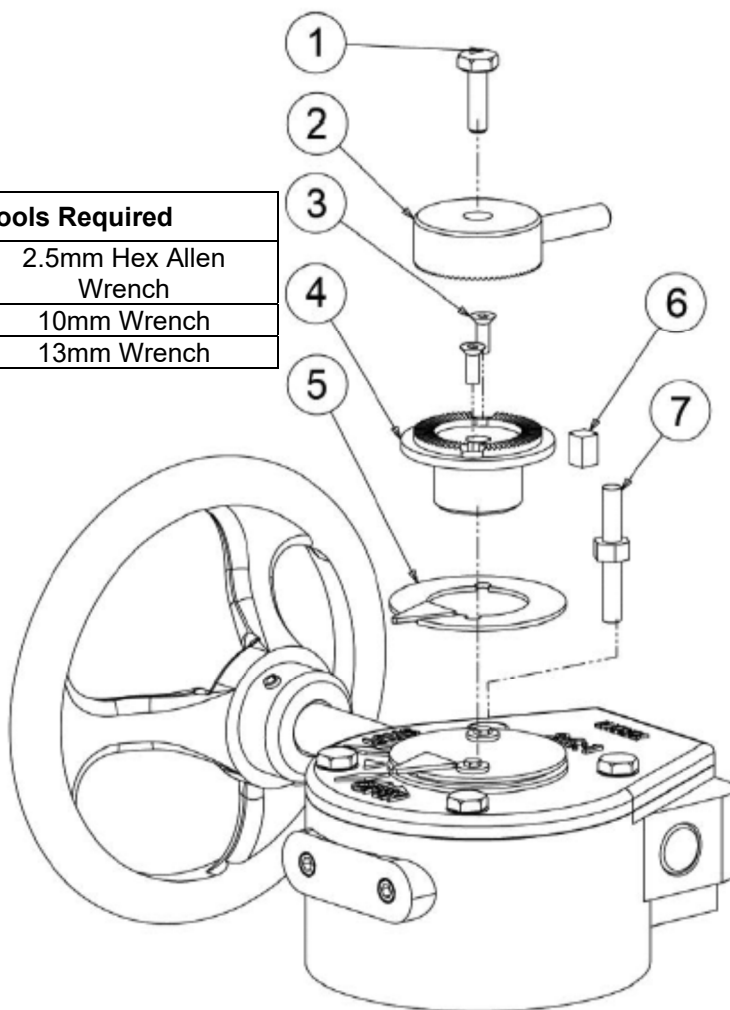

FIGURE 10
1. Remove the two screws holding the top cover (Indicator Pointer) onto segment gear. Discard cover and screws. See *Figure 10*.
2. Place indicator (5), supplied with kit, around bottom hub (4). Align key (6) on bottom hub with slot in segment gear and slide into place.
3. Attach with two supplied M4 x 12 flat head screws (3).
4. Remove one cap screw (1) holding cover onto gear operator housing and replace with stop pin (7).
5. Use cap screw (1) you just removed to secure the top hub (2) to the bottom hub (4). Top hub can be moved 360 degrees in 5 degree increments.
6. Tighten cap screw (1) once top hub is appropriately set.